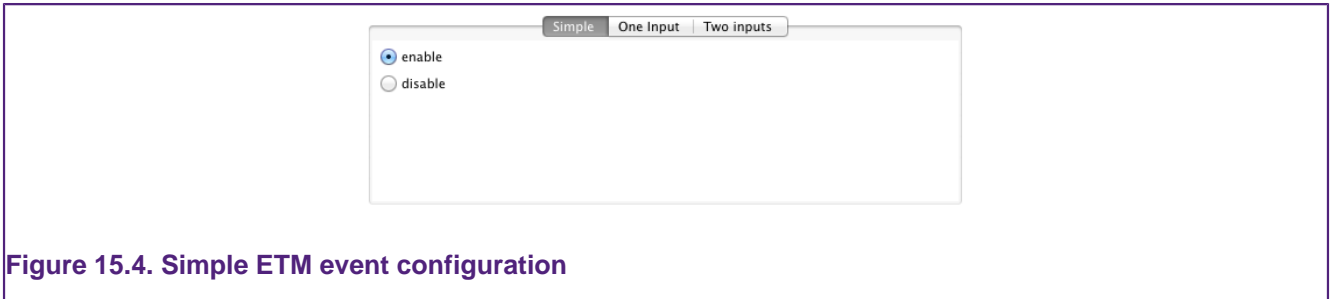

Figure 15.4. Simple ETM event configuration
- The simplest option is a binary enabled/disabled choice. This is accessed by selecting the **Simple** tab. Select **enable** for the Event to always be true or **disable** for the event to always be false. See Figure 15.4.